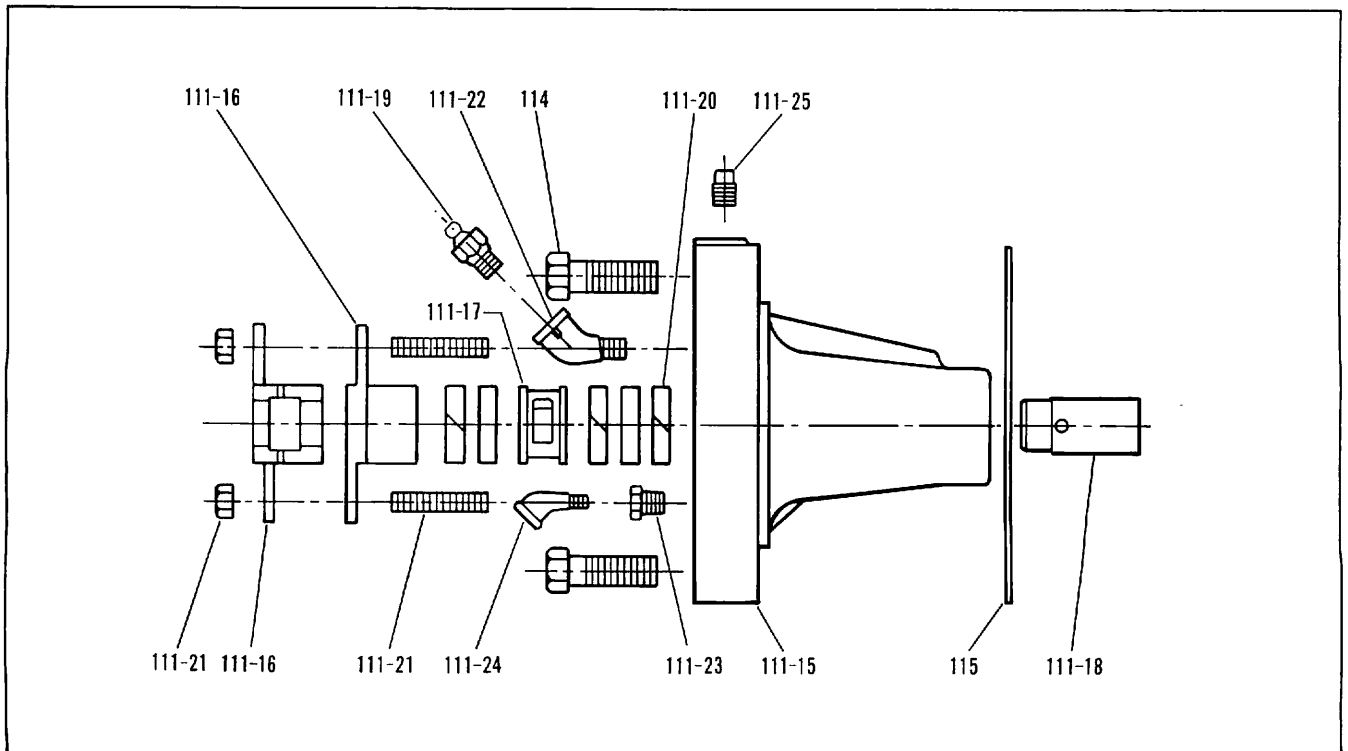

Figure 21
If a packing box has been furnished, as is the normal case with short coupled open lineshaft equipment, it will usually be shipped assembled in its proper position in the elbow or driver pedestal. Normal packing box assembly will usually include packing container Item 111-15, at extreme lower end of which is a bushing or throttle sleeve item 111-18. Immediately above this are assembled a given number of packing rings Item 111-20. Then a lantern ring Item 111-17 positioned so as to allow leakage into proper drain port, then more packing rings and at the top, a two piece gland Item 111-16 which can be removed without disturbing shaft. A gasket Item 115 seals housing flange to seat. Housing Item 111-15 is secured in position with capscrews Item 114. See Fig. 21.